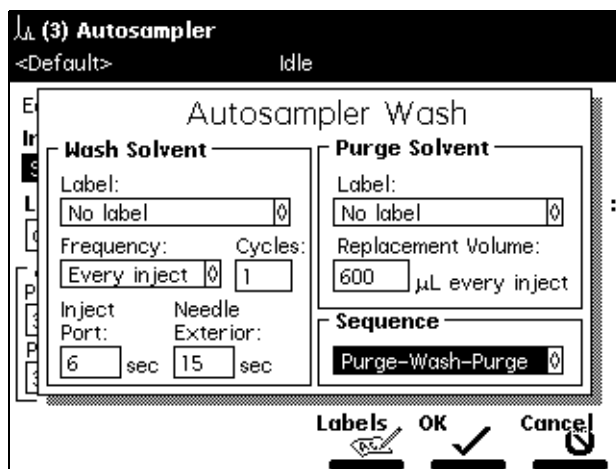

Figure 5-11 Autosampler Wash Dialog Box
1. Press the **Wash** screen key in the Autosampler screen. The Autosampler Wash dialog box (Figure 5-11) appears.